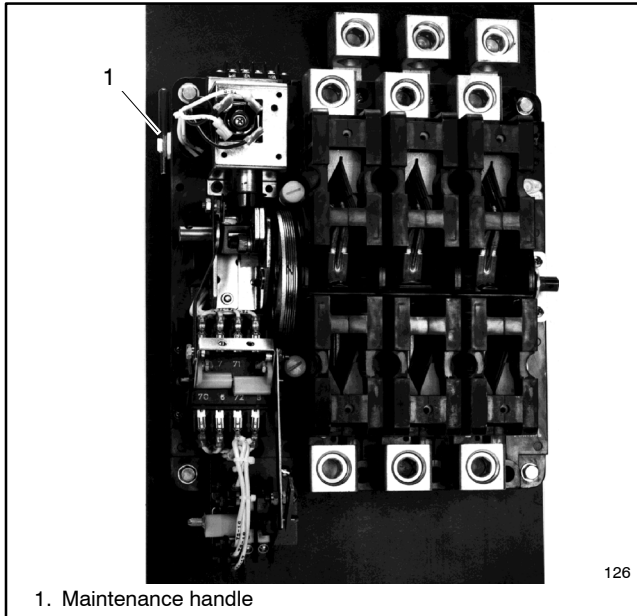

Figure 6-1 Typical Manual Handle Storage
The 225-400 amp transfer switches have a detachable handle for manual operation. See Figure 6-1 for the typical handle storage location.
2. Remove the maintenance handle from the clips on the left side of the transfer switch frame. See Figure 6-1.